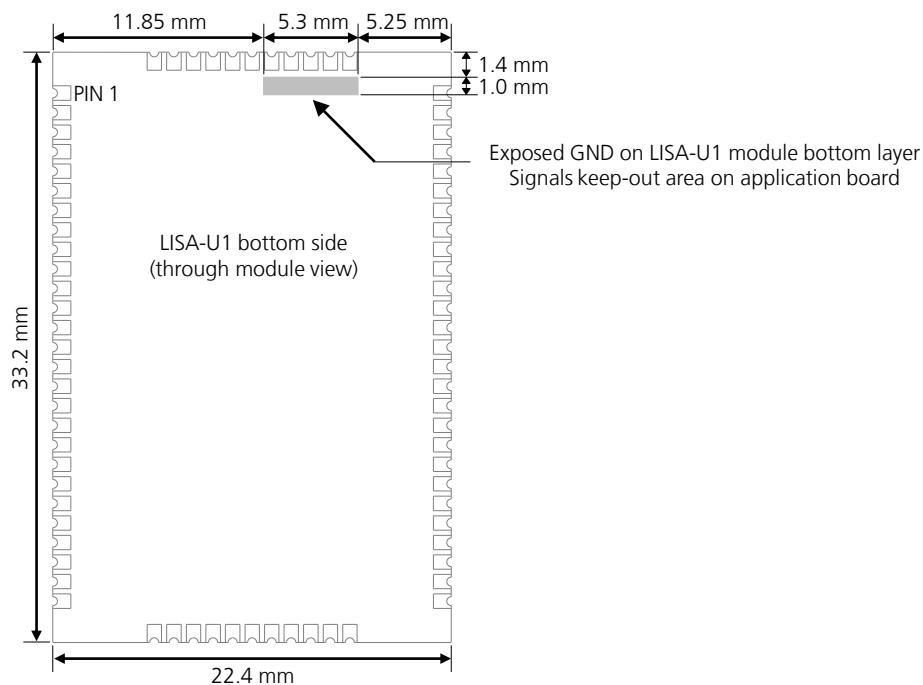
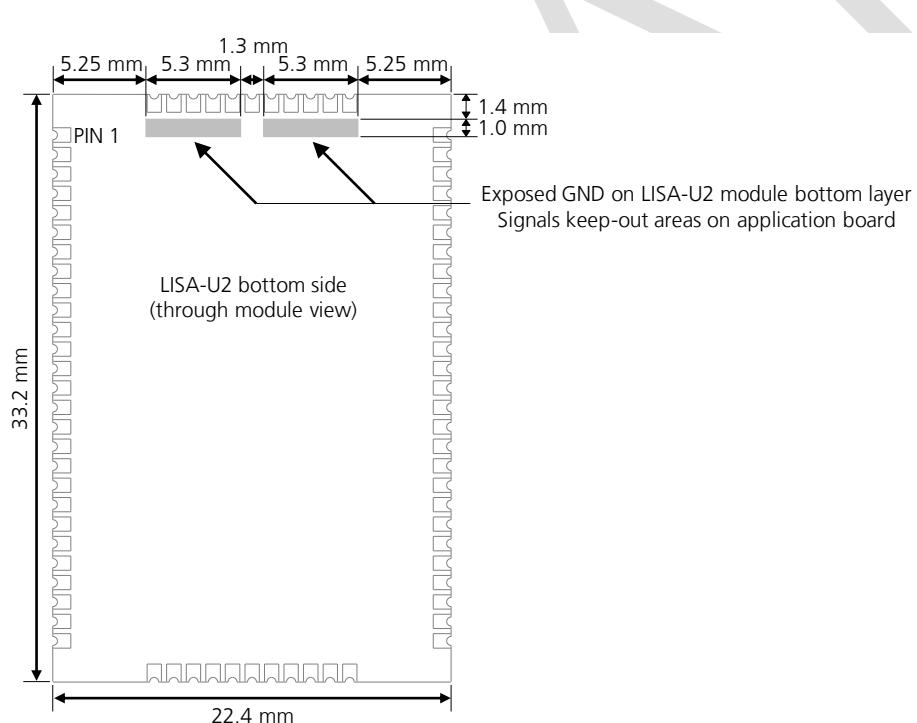

Figure 61: Signals keep-out area on the top layer of the application board, below LISA-U1 series modules
Figure 62: Signals keep-out areas on the top layer of the application board, below LISA-U2 series modules
The bottom layer of LISA-U1 series modules has one unprotected copper area for GND, shown in Figure 61.
The bottom layer of LISA-U2 series modules has two unprotected copper areas for GND, shown in Figure 62.
- ☞ Consider “No-routing” areas for the LISA-U series modules footprint as follows: signal keep-out area on the top layer of the application board, below LISA-U series modules, due to GND opening on module bottom layer (see Figure 61 and Figure 62).